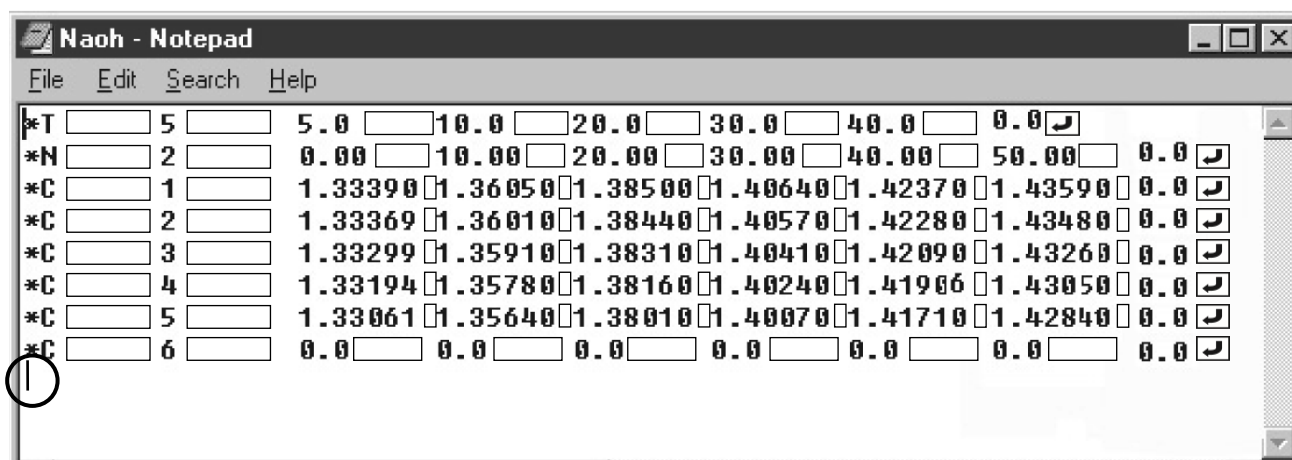

Fig. 11-14
⑥ Create a text file as in Fig. 11-14 based on Data Table 11-2.
Note The ☐ mark in Fig. 11-14 is not displayed on the screen.